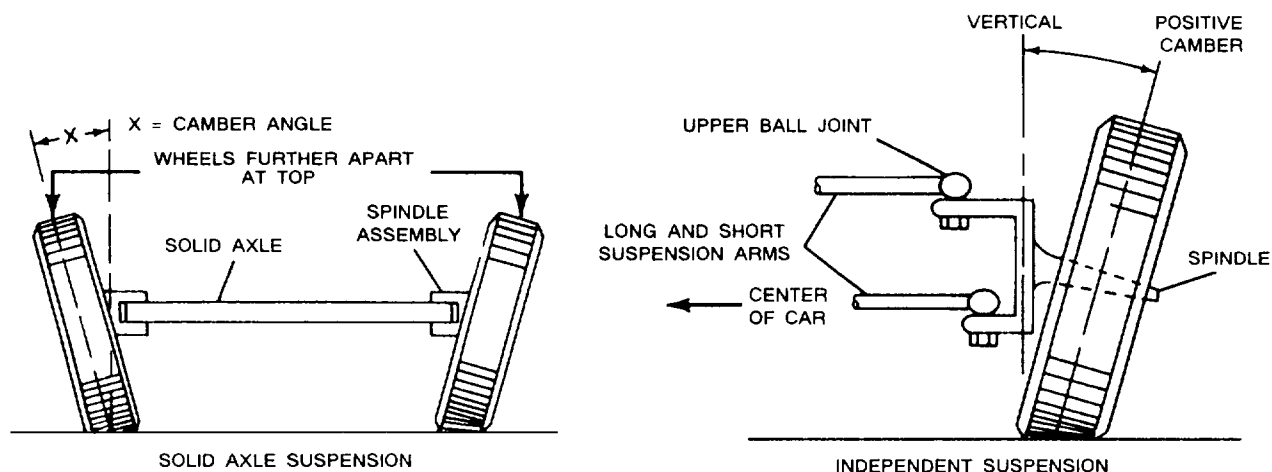

Figure 12-1.—Camber angle.
**1. CAMBER ANGLE.** As viewed from the front of the vehicle, the camber angle is the degree to which the wheel tilts inward or outward (fig. 12-1). It is measured in degrees and changes with the load of the vehicle and suspension movement. Positive camber is the outward tilt of the top of the wheel, and negative camber is the inward tilt. It is shown by a line drawn
3. Grasp the idler arm and try to work it up and down; then try to spread the tires apart while watching the steering linkage, (fig. 12-1 2). In either case, you should not see excessive movement. Inspect the tie rod ends for uncontrolled movement.